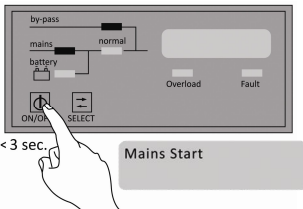
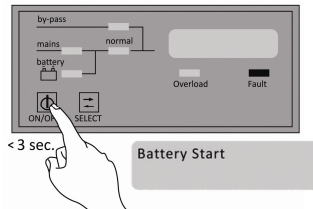

Figure 3.5
Figure 3.6
3. If the *mains* and the *by-pass* LEDs are on, press the *ON/OFF* button shortly and observe the 'Mains Start' warning (Figure 3.5). If the *Fault* LED is on, press the *ON/OFF* button shortly to turn off the audible warning, press shortly again to see 'Battery Start' warning (Figure 3.6) and wait until *normal* LED is on.